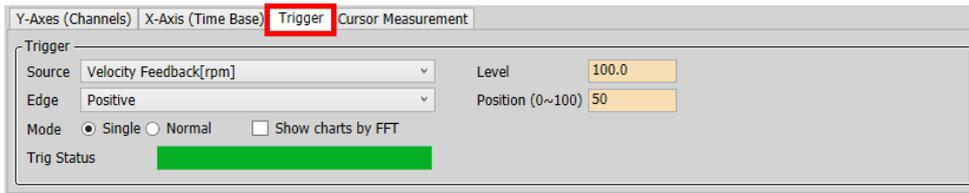
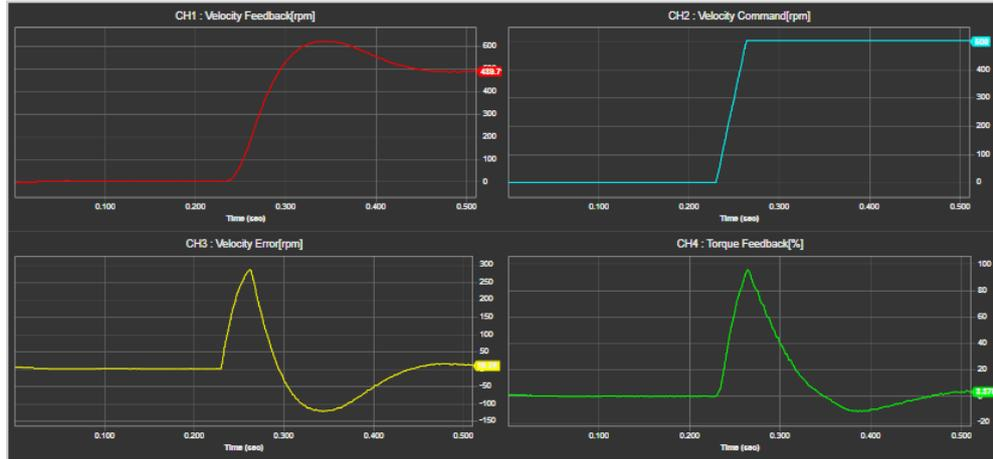

Figure 3-5.4
Figure 3-5.5
(2) Edge
(3) Level
(4) Position
(5) Mode
(6) Show charts by FFT
- When the trigger is completed and checked, an analysis graph converted to FFT is displayed. (Refer to Figure 3-5.5) Set up Notch Filter properly to reduce the vibration by detecting the resonance frequency in the normal time and analyzing the results.
Figure 3-5.5 shows an example of a single trigger as presented in Figure 3-5.4, where the source channel is "Velocity Feedback[rpm]"; Trigger Level is 100[rpm] at the positive edge; and the graph's Trigger Position is located at 50% (center).